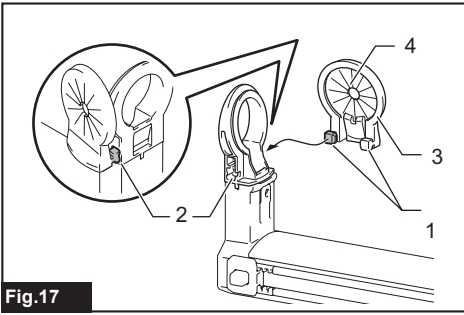

Fig.17
► Fig.17: 1. Cube hooks 2. Receptacles 3. Sealing cap 4. Recessed surface